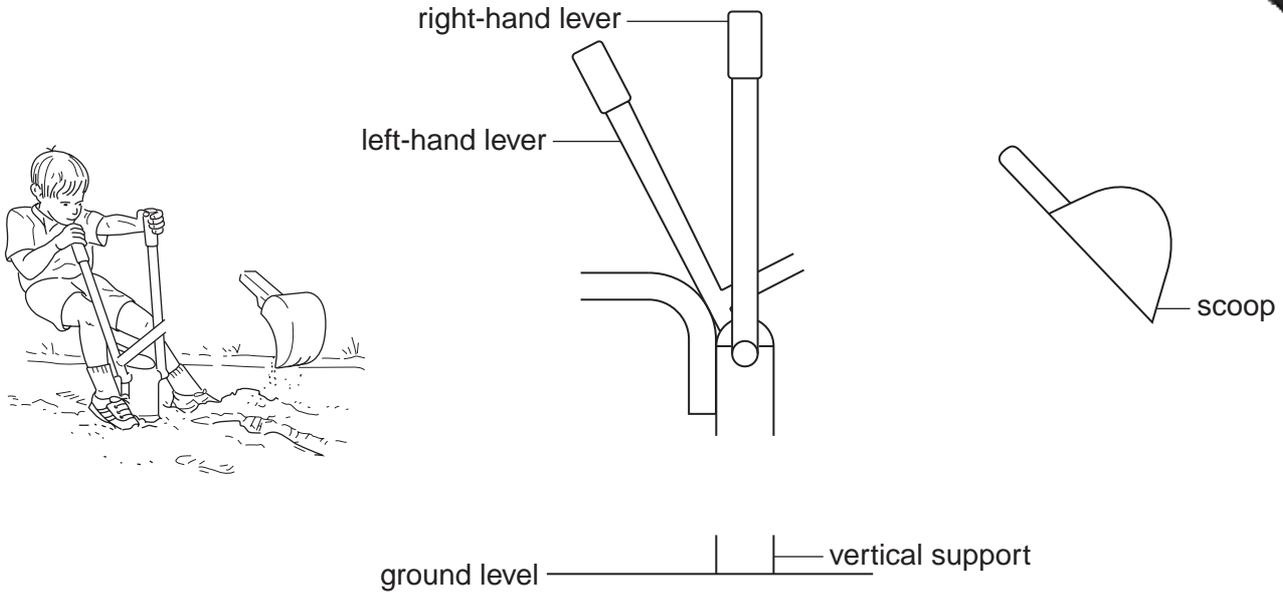

Fig. 10
- 9 Fig. 10 shows an incomplete idea for a child's mechanical digger to be used in a sandpit. Most of the digger is made from metal. The levers enable a child to raise and lower the scoop, fill it with sand and tip the sand out.